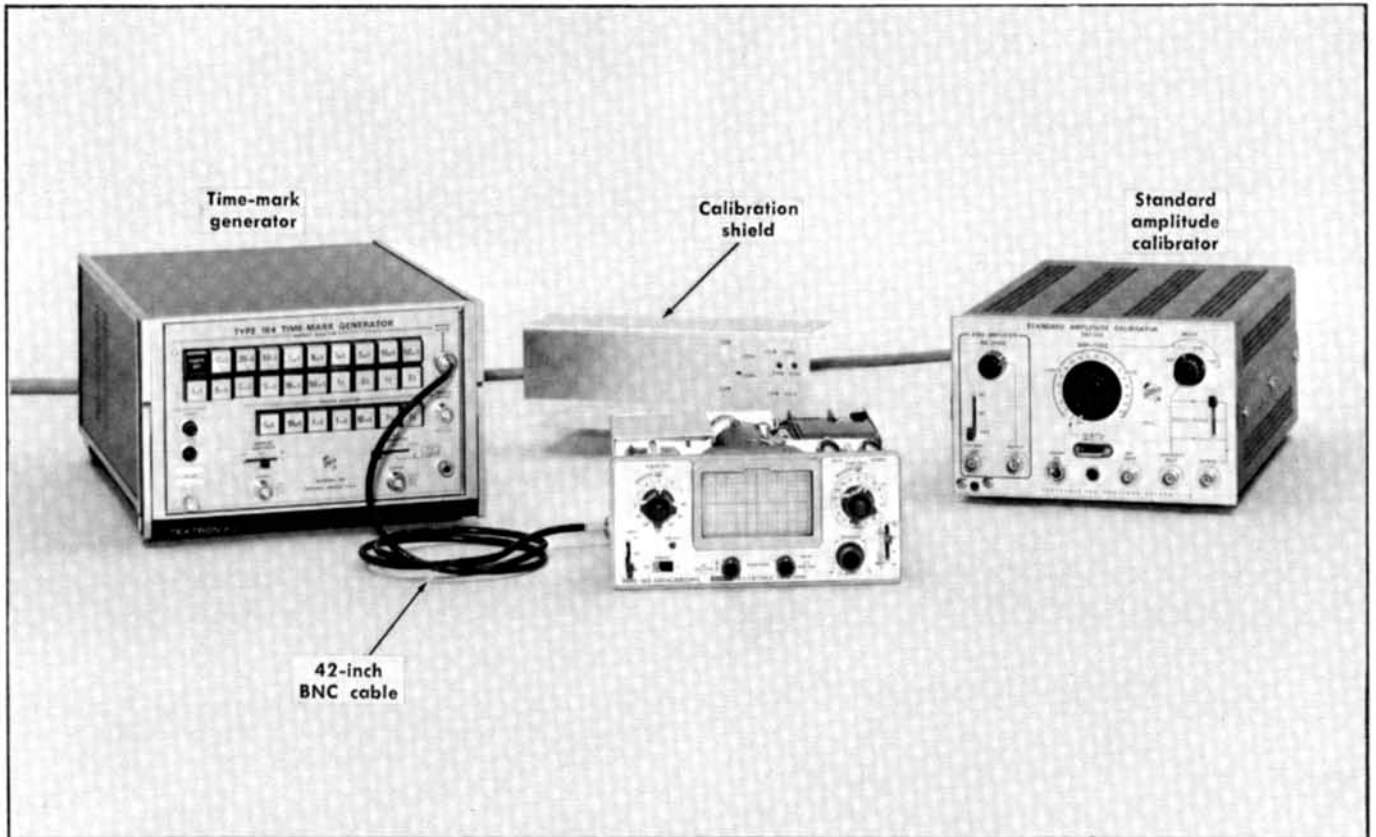

Fig. 6-6. Initial test equipment setup for steps 13 through 22.
13. Adjust Astigmatism ①
- a. Test equipment setup is shown in Fig. 6-6.